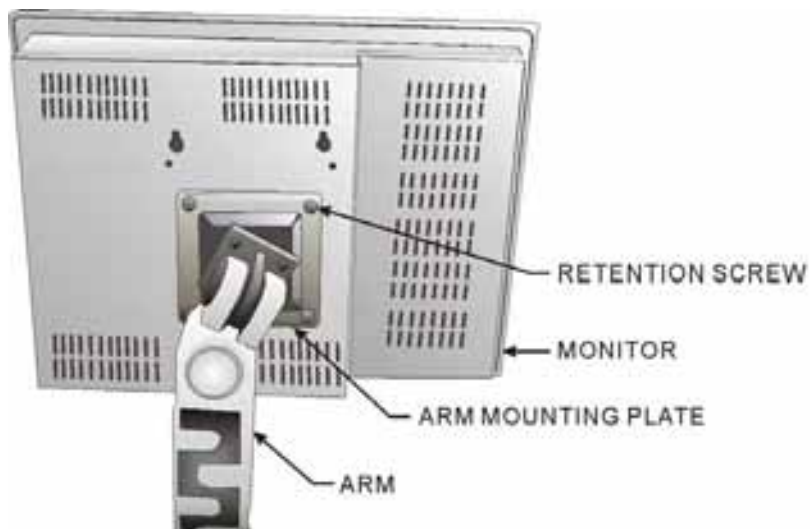

Figure 5-23: Monitor Arm Mounting
Step 2: Secure the monitor to the arm with the supplied retention screws (**Figure 5-23**).